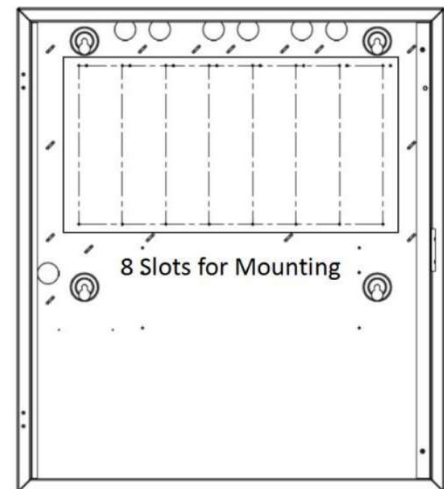

Figure 2
- 3) Connect the FW337 with the FW201 AMI and/or other units through the two 4-pin terminals, for CAN Bus and Input: 24VDC, using the wires and terminals provided. and terminals provided (see Figure 2.)